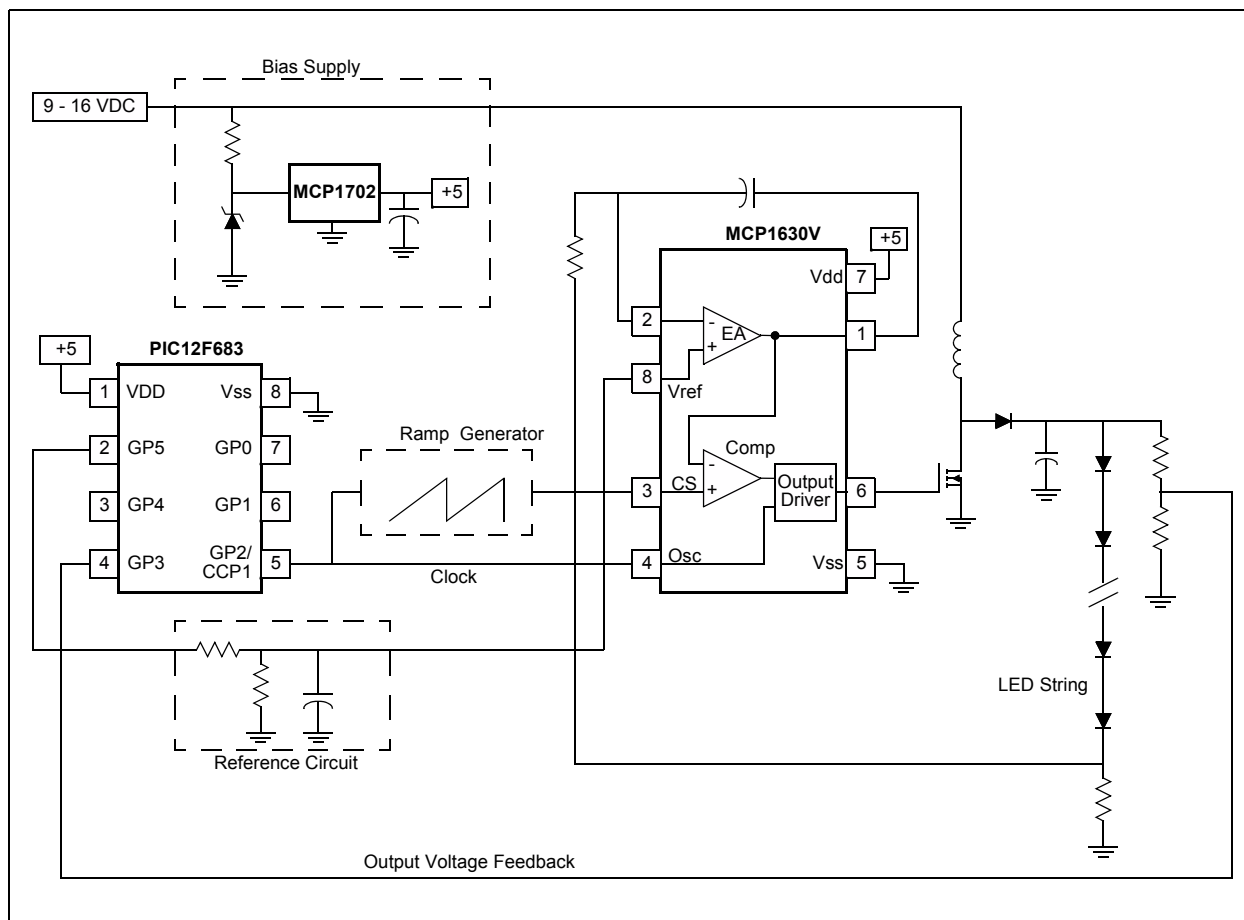

FIGURE 1-1: MCP1630 Boost Mode LED Driver Demo Board Simplified Block Diagram.
- Updated Figure 1-1
Figure 1-1 shows a simplified block diagram of the application